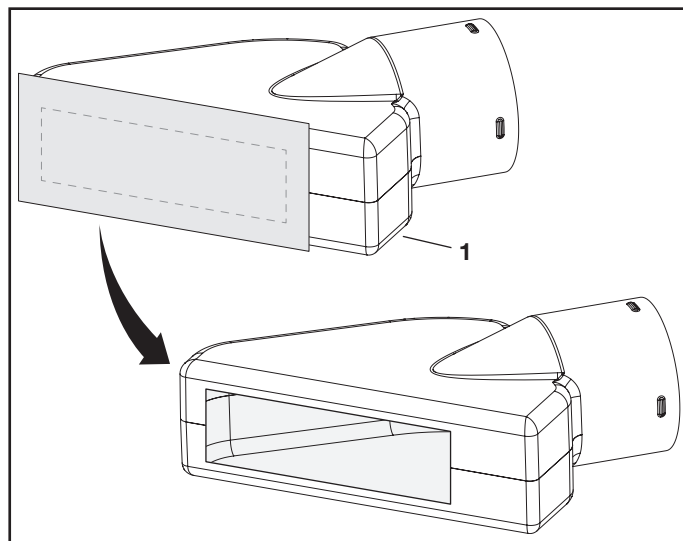

FIGURE 2
STEP 2: (SEE FIGURE 2)
- Tape the template to the face of the deck adapter (1), about 1/2" from front and 1/4" down from top for deeper decks. For shallow decks, position template low enough that adapter will not extend below bottom of deck. Mark outline of template on face of adapter using white crayon, nail or scribe.
STEP 5: (SEE FIGURE 2)
- Use of the boot rear angle (5) is dependant on the size of the mower deck opening. If mower deck opening is too large, skip this step. Position boot rear angle (5) and deck adapter (1) so that boot rear angle is at the rear edge of the mower deck opening. Mark holes on the deck adapter (1) and drill. Attach boot rear angle using two 1/4" bolts (8), washers (7) and 1/4" nuts (9).